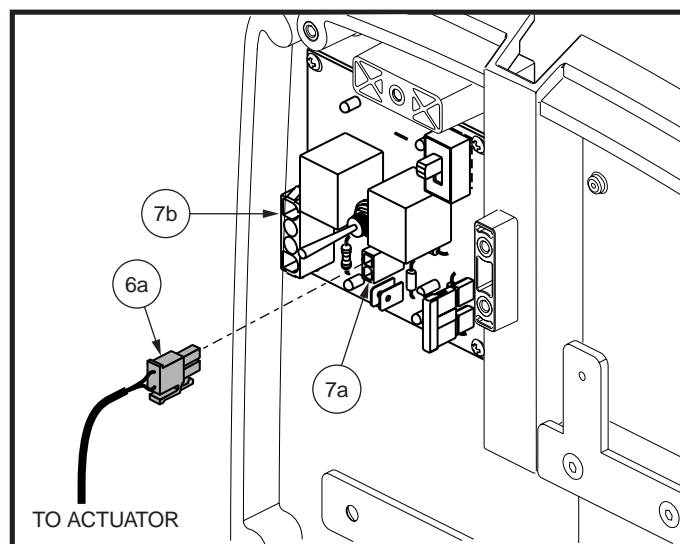

Figure 9. Service Panel
5. Plug connector 6a into connector 7A of the service panel. **See diagram 1 and figure 9.**